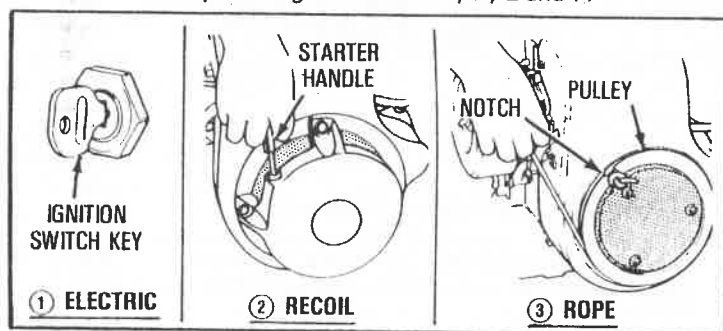

Figure 3
- 1 **ELECTRIC STARTER** (see Figure 3):
- 2 **RECOIL STARTER** (see Figure 3):
C. Grasp starter handle (see Figure 3) and pull rope out, slowly, until it pulls harder. Let rope rewind slowly. Then pull rope with a rapid full arm stroke. Let rope return to starter slowly.
③ ROPE STARTER (see Figure 3):
- C. Insert rope knot into starter pulley notch (see Figure 3) and wind rope, clockwise, around pulley.